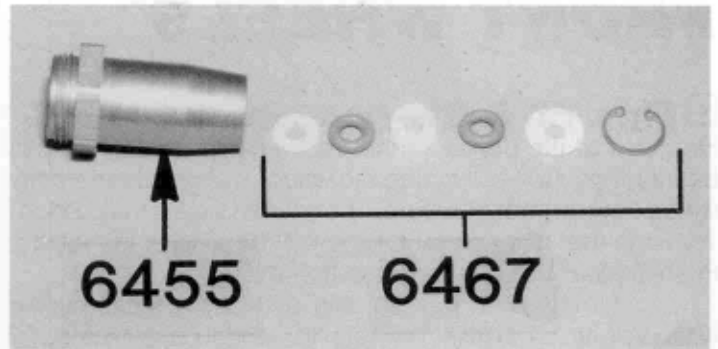

Fig. 55
□ **Figs. 55 & 56**— Take these parts out of the Bag and line them up in the order shown. First the small nylon washer, a red "O"-ring, the nylon spacer, a red "O"-ring, the large nylon washer, and a "C"-clip. Now push the parts in the end in the order shown: First, push the small nylon washer in all the way to the stop. Next push in one red "O"-ring, then the nylon spacer, another red "O"-ring, then the large nylon washer. Then the large inner "C"-clip, starting one end of the clip in, holding it down with your finger, and pushing the other end over and in with a small screwdriver. (If you still have trouble installing the clip, try it this way: start one end of the clip in and hold it down with your left thumbnail. Now start working your right thumbnail around, pressing the ring into the hole as you go. By the time you get to the other end of the clip it will snap into the groove.)